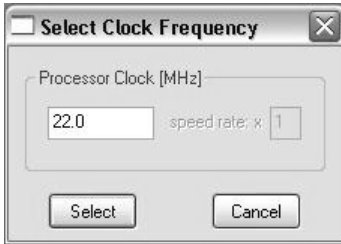

FIGURE 8 Selecting the target clock frequency.
11. The debugger closes the Create Project Wizard and opens the project you have just created and establishes communication with the ADM51 emulator. The Select Clock Frequency dialog box appears (Figure 8). Enter the frequency of your target clock. The value is used by the Trace window to convert processor cycles into time units (microseconds, milliseconds, etc.) when displaying trace data.